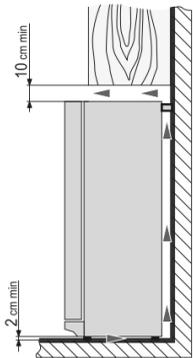

Fig. 2
- Maintain a minimum of 10 cm between the top of the device and objects located above it (e.g. cupboards). Failure to do so may result in increased energy use or overheating of the compressor (**fig. 2**).